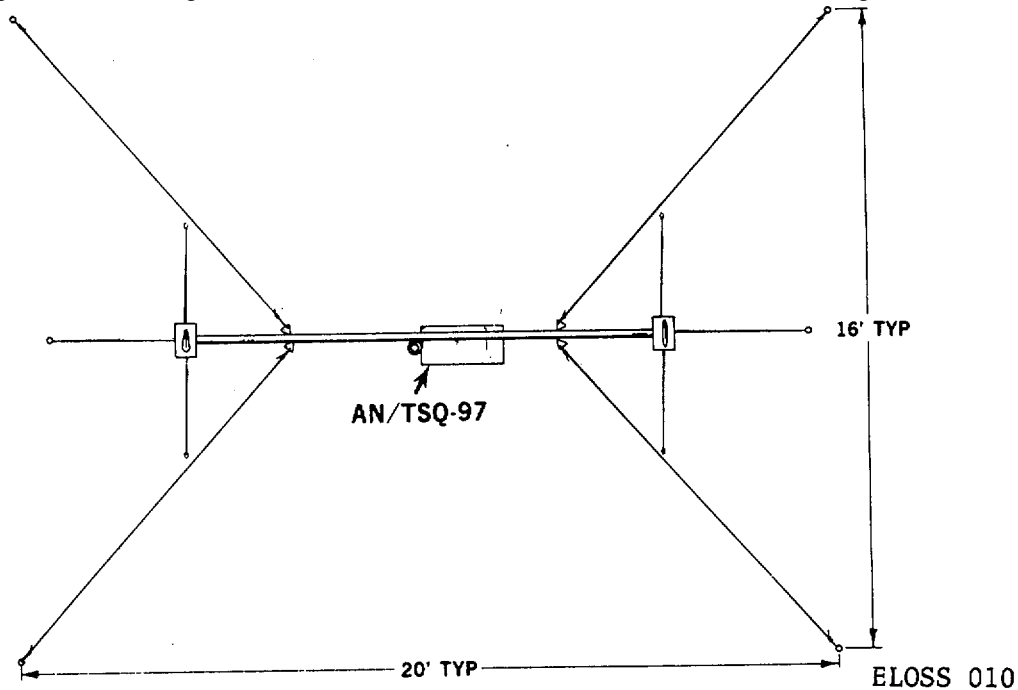

Figure 2-3. Guy Line and Anchor Pin Positioning.
(8) Shorten the guys so that the keepers are approximately halfway and hook the triangular shaped brackets on the two inner hooks on the boom.
(9) Insert a stake in each of the other brackets on the guys and drive the stakes into the ground. Refer to figure 2-3 for recommended guy positioning.